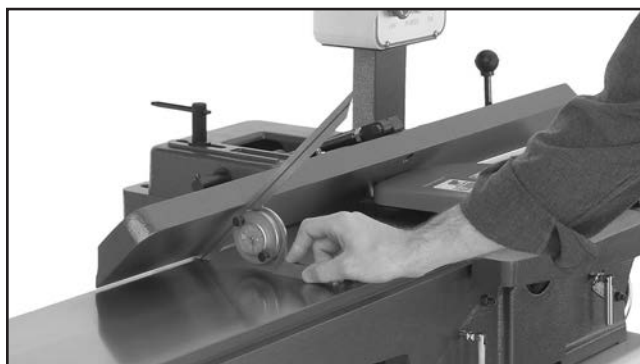

Figure 61. Example of adjusting fence 45° inward.
3. Using a 45° square, adjust the fence to the 45° inward position, as shown in **Figure 61**.